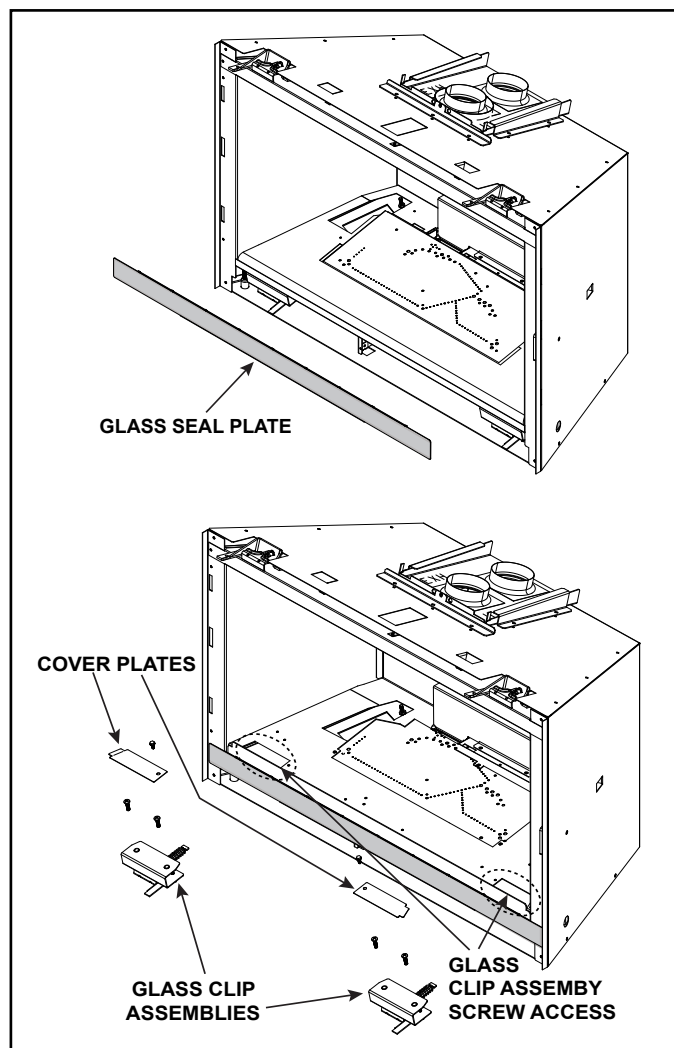

Figure 4.5 Glass Clip Removal
- For easier access, glass clip assemblies can be removed. See Figure 4.5.